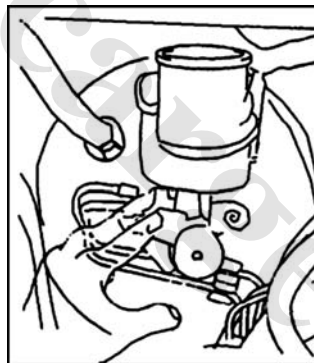

Fig. 2-41
3) Block up the hole from outside by fingers, and release the brake pedal as Fig. 2-41.